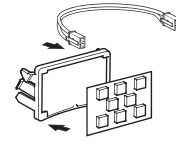

Fig. 72
- Disconnect power cord from operator (Fig. 72).